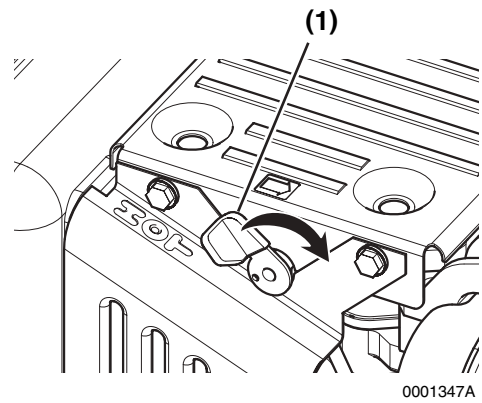

Figure 8
1. Grasp the recoil starter handle (**Figure, (1)**).
4. Push the decompression lever (**Figure 8, (1)**) down and release it. The decompression lever will automatically return to the original position when the engine starts. Some LV model engines have an automatic, internal compression release mechanism and do not have the external compression release lever. Refer to the specific instructions for your driven machine.
5. Grasp the recoil starter handle (**Figure, (1)**).